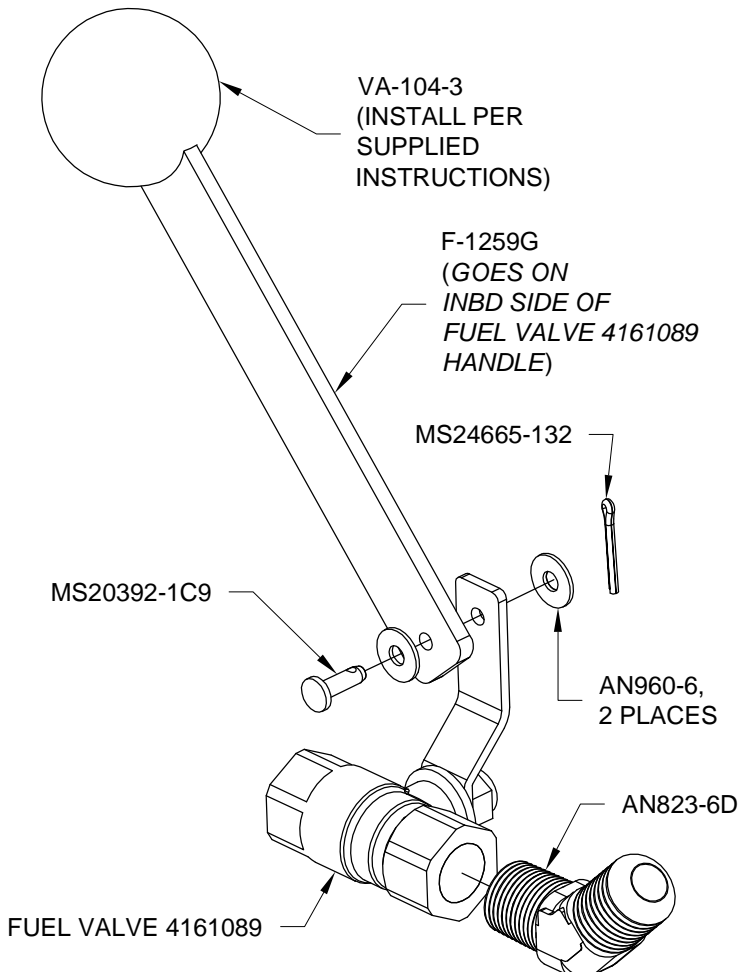

FIGURE 3: HANDLE ASSEMBLY
Step 5: Install the other end of the F-1259G Fuel Valve Bracket Handle to the FUEL VALVE 4161089 handle as shown in Figure 3. Install the fluid fitting shown in Figure 3 to the FUEL VALVE 4161089 (use a small amount of pipe thread sealant).